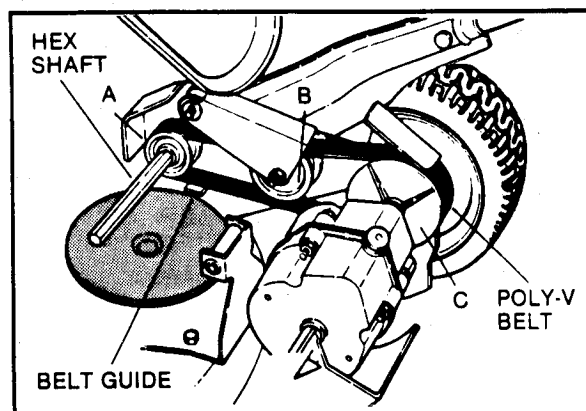

FIG. 18 -POLY-V BELT REPLACEMENT
**POLY-V-BELT REPLACEMENT:** The driven disc assembly must be removed first. Note the arrangement of the old belt around the three pulleys before cutting and removing it. Slip the replacement belt over the end of hex-shaft and onto pulley (A). Then work it onto idler pulley (B) and twist it sideways and pull upward between the differential bracket and transmission pulley (C) and then down into the pulley's groove. Make sure the belt is in each pulley's groove! Refer to FIG. 18.
**NOTE:** When properly installed, the lower span of Poly-V-Belt will be ABOVE the belt guide - below pulley (A).